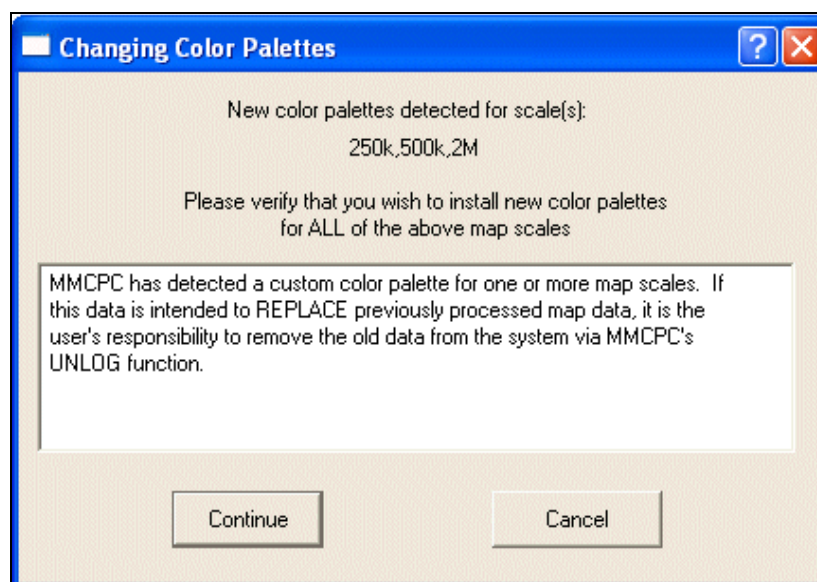

Fig. 45 — Color palette informational message
4. If the source map data contains custom color palettes, a message is displayed to inform the user that new color palettes were detected for the appropriate map scales and note the possible repercussions of installing new color palettes (Fig. 45). Note: MMCP C does not unlog or remove obsolete map data from the system. This message informs the user that if the new data to be processed is meant to replace another set of processed CADRG, then the user should remove the obsolete data via the *Unlog* function. Click Continue to use the modified color palettes.